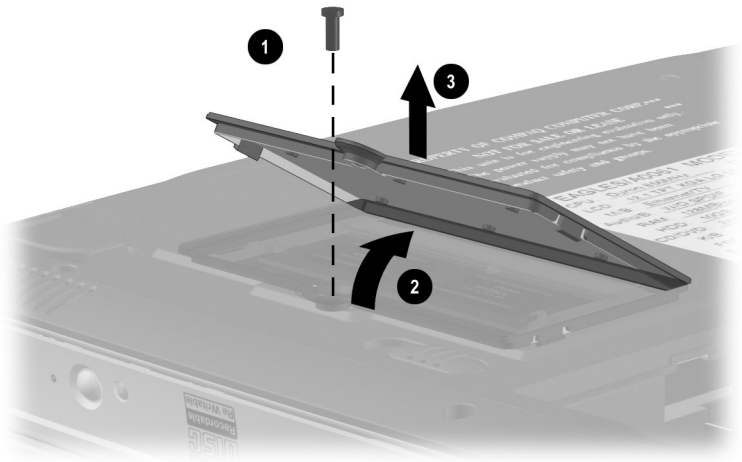

Figure 5-9. Removing the Memory Expansion Compartment Cover
3. Remove the black PM2.0 × 5.0 screw ❶ that secures the memory expansion compartment cover to the base enclosure (Figure 5-9).
4. Swing the left side of the cover up and to the right until it rests at an angle ❷.
5. Lift the cover straight up and remove it ❸.